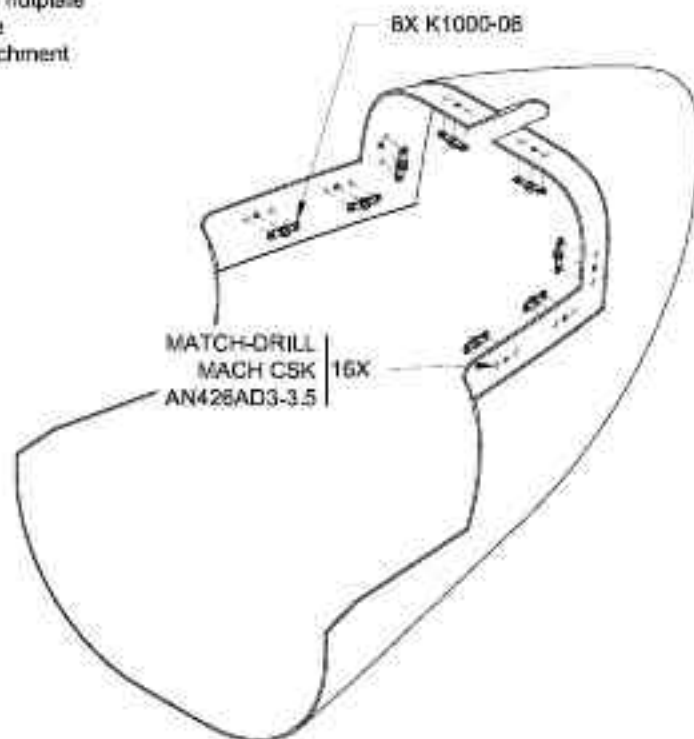

FIGURE 1:
Step 4: Rivet the nutplates to the F-1294B-1 using the rivets called out in Figure 1.
Step 5: Using #6 screws, temporarily screw the F-1294A to the F-1294B-1 as shown in Figure 1.